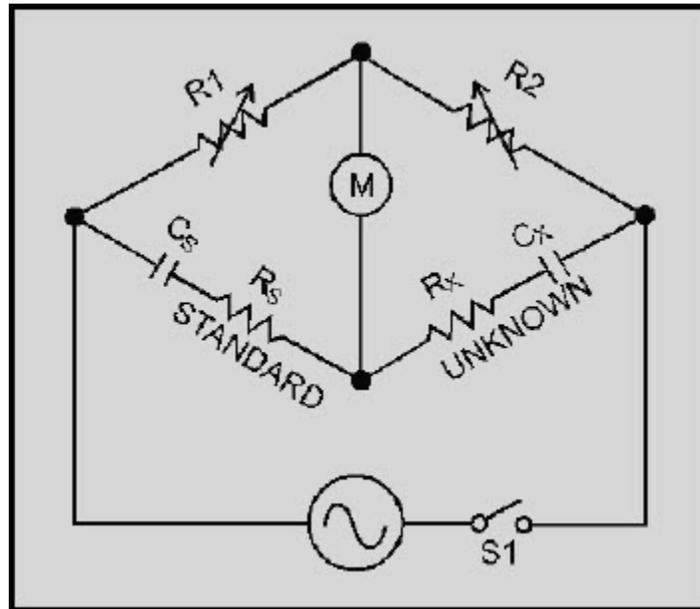

Figure 1-7 Capacitance bridge
**CAPACITANCE BRIDGE** - Because current varies inversely with resistance and directly with capacitance, an inverse proportion exists between the four arms of the bridge in figure 1-7; the right side of our expression is inverted from the resistance bridge expression as follows:
In figure 1-7, for example, we know that  $R_1$  is 20 ohms,  $R_2$  is 40 ohms,  $R_s$  is 60 ohms, and  $C_s$  is 10 microfarads. We can find the values of  $C_x$  and  $R_x$  by using the respective formulas as follows: